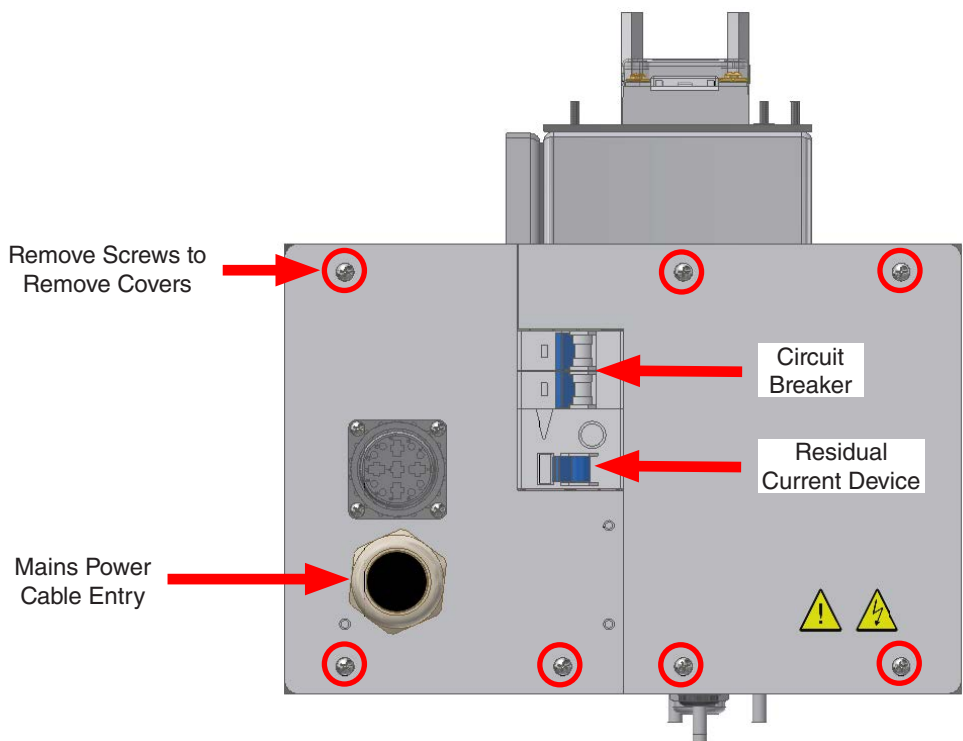
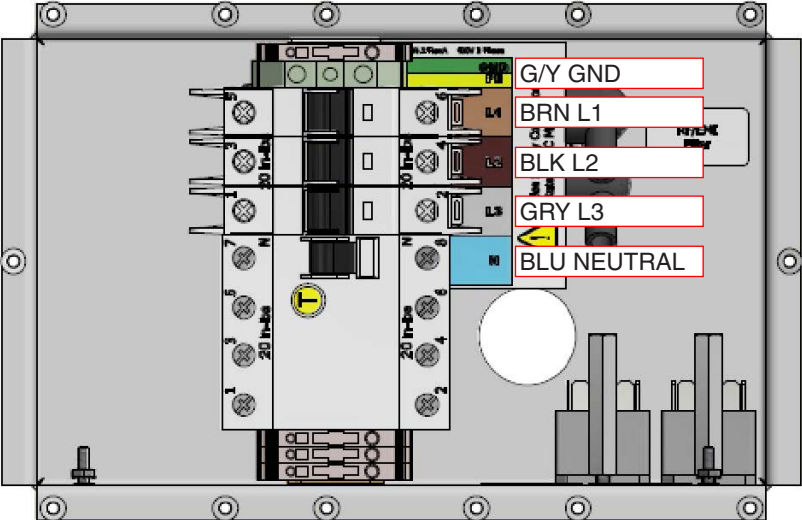

Figure 6.4d: 208/230 V 1-phase electrical power entry and circuit breakers with covers.
Figure 6.4i: 400 V 3-phase electrical power entry and circuit breakers with covers removed.
- The mains wires should be connected to the breaker, Figure 6.4d through Figure 6.4i.